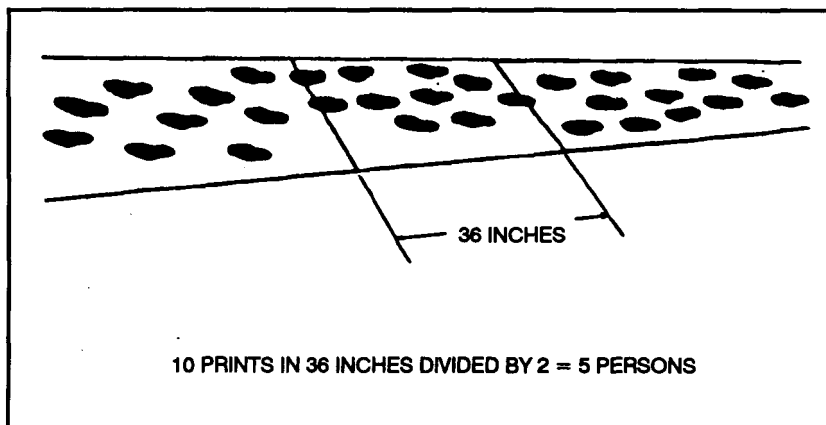

Figure 8-3. 36-Inch box method.
(2) The sniper may also use the 36-inch box method (Figure 8-3) if key prints are not evident. To use the 36-inch box method, the sniper uses the edges of the road or trail as the sides of the box. He measures a cross section of the area 36 inches long, counting each indentation in the box and dividing by two. This method gives a close estimate of the number of individuals who made the prints; however, this system is not as accurate as the stride measurement.